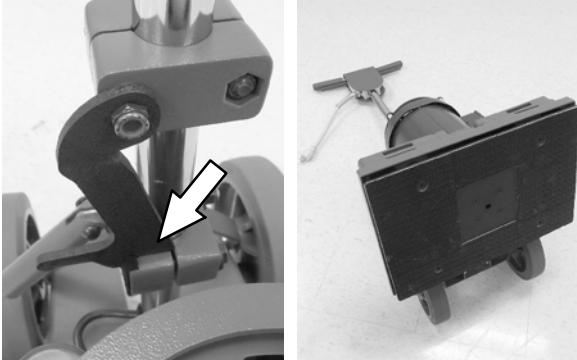

FIG. 1
1. Put the transport handle lock lever in the locked position and carefully lower the handle to the floor (Figure 1).